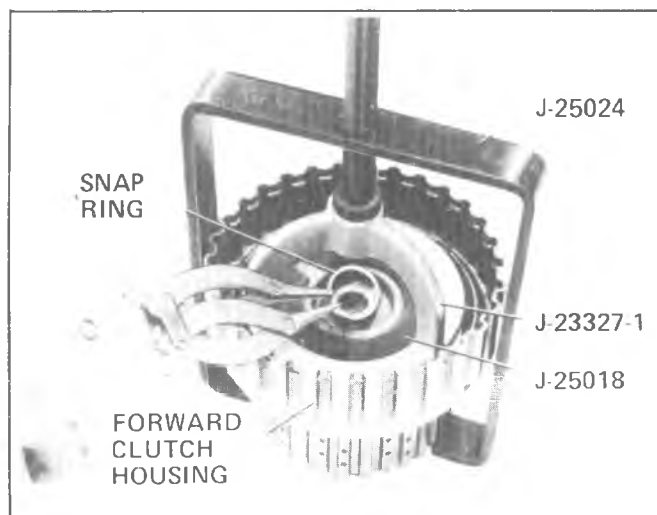

Fig. 7A-113A--Removing or Installing Forward Clutch Release Spring Snap Ring
2. Remove and inspect forward clutch to direct clutch thrust washer for damage (Fig. 7A-111A).